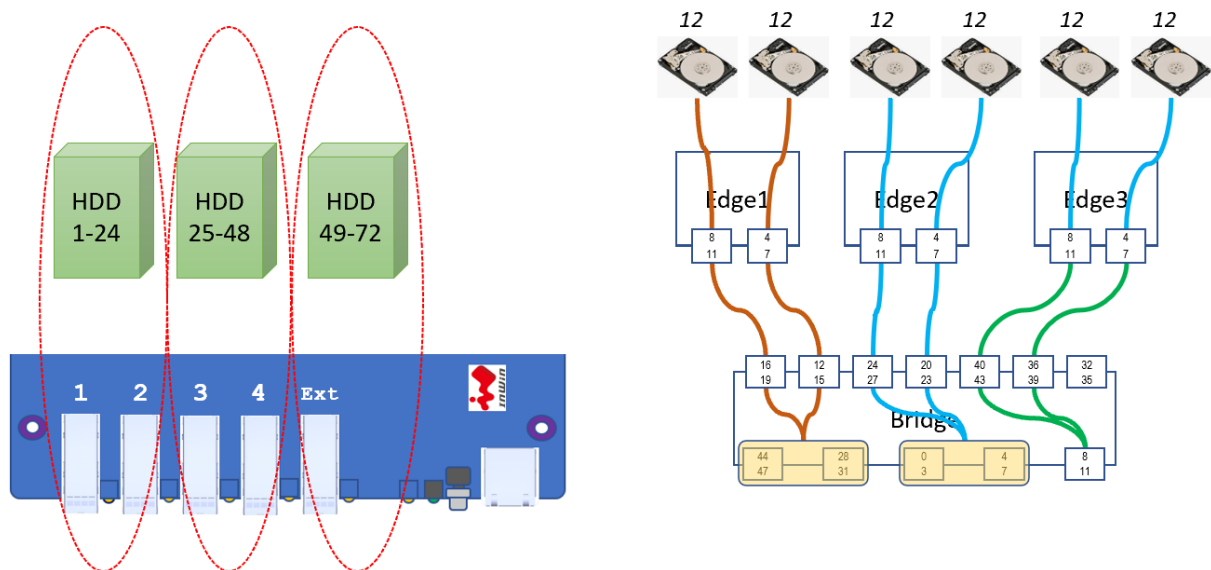
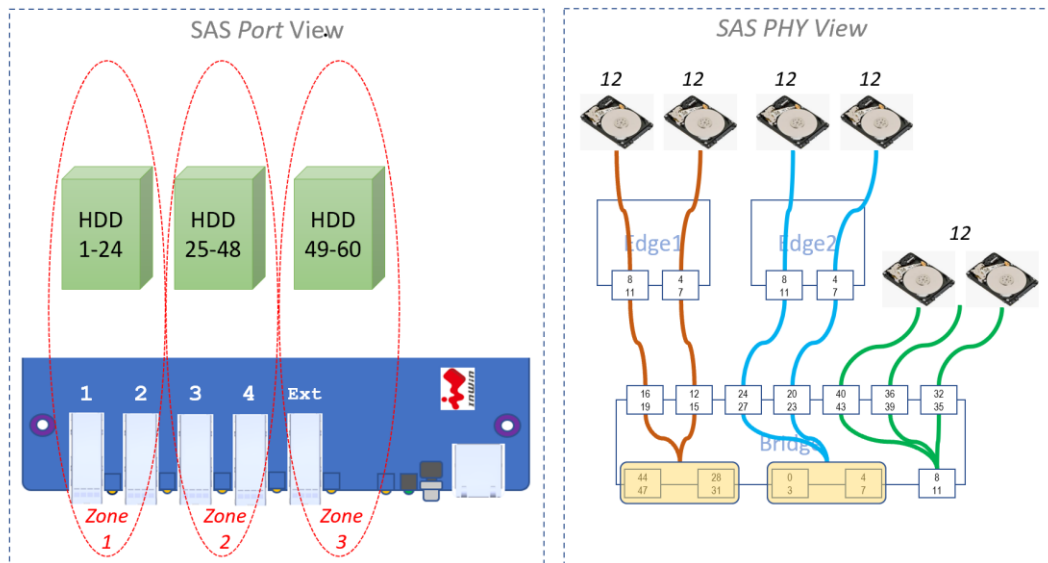
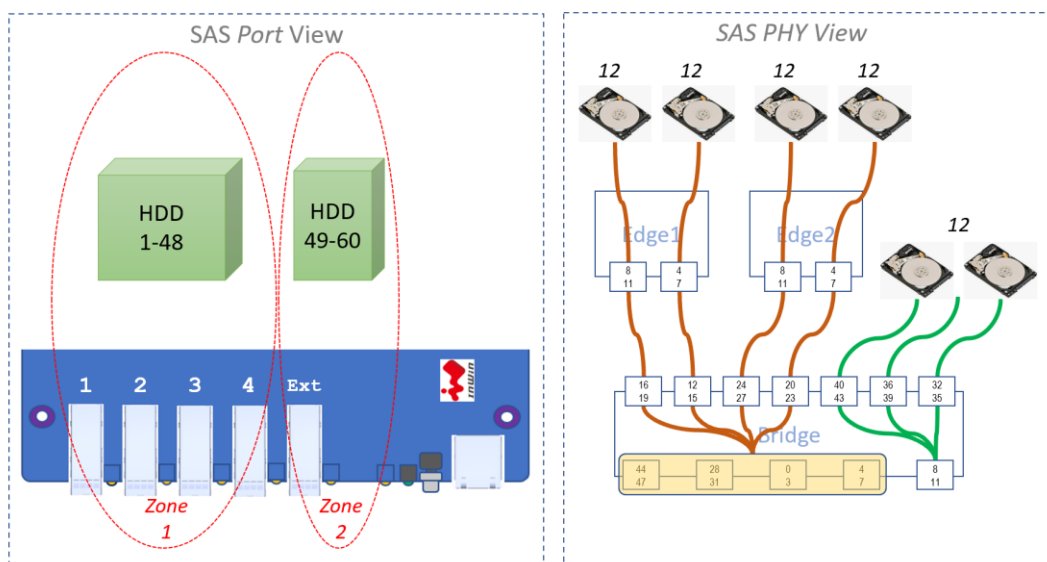

FIGURE 17 RJ-472 ZONES ENABLE CONFIGURATION
FIGURE 18 RJ-460 ZONES ENABLE MODE 1 CONFIGURATION
FIGURE 19 RJ-460 ZONES ENABLE MODE 2 CONFIGURATION
Set PHY-base zone mode. There are 2 zone mode, 0 – disable, 1 – enable. RJ-460 also have mode 2. Default (0) is zone disabled. Refer to Figure 17 for RJ-472 enable mode (3 zones – zone1 is bay1-24, zone2 is bay25-48, zone3 is bay49-72). Figure 18 for RJ-460 enable mode 1 and Figure 19 for RJ-460 enable mode 2